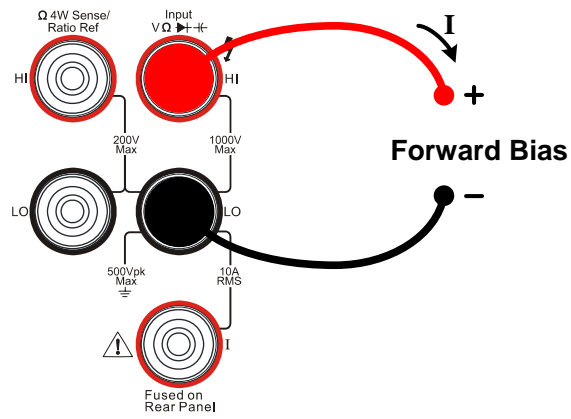

Figure 1-31
1. Connect test leads as Figure 1-31 shown. Red test lead connects the HI Terminal, Black test lead connects the LO Terminal.